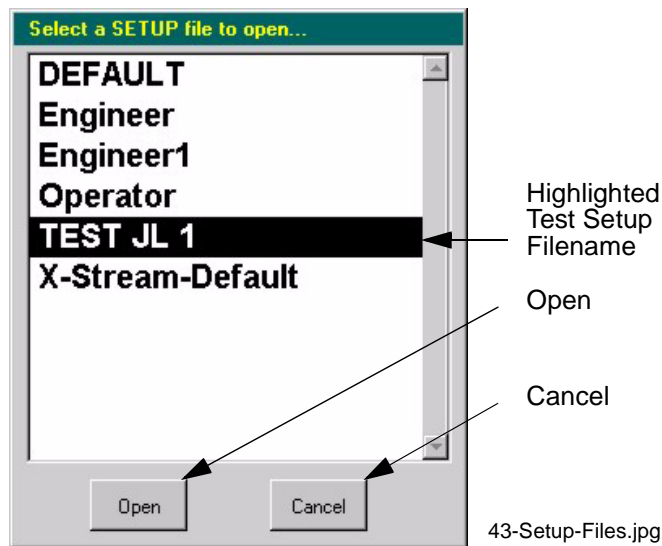

Figure 6-2. Select Setup Screen
2. Press "Load Setup" button to display *Select Setup Screen* (see Figure 6-2. on page 24).
FUNCTION	For Air mode and DUT mode. Manually run to 1 setpoint; or automatically Cycle up to 18 setpoints. (To load a prior saved test Setup, see Figure 6-2. on page 24)